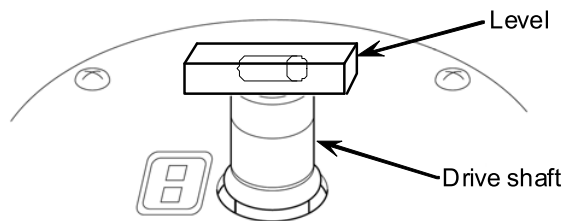

Figure 5-3. Level Placement
- (2) Turn on the power switch on the ultracentrifuge, open the chamber door, and then turn off the power switch. If this ultracentrifuge is still unplugged, refer to section “Emergency Recovery from Power Failure”, remove the front cover, and open the chamber door.
- (3) Place the level furnished with this ultracentrifuge on the drive shaft in the rotor chamber and turn the four level adjusters to adjust the levelness of this ultracentrifuge (figure 5-3).
- (4) After adjusting the levelness, make sure that the four level adjusters are placed on the floor properly. If the ultracentrifuge does not rattle when it is lightly pushed around, it is installed properly.